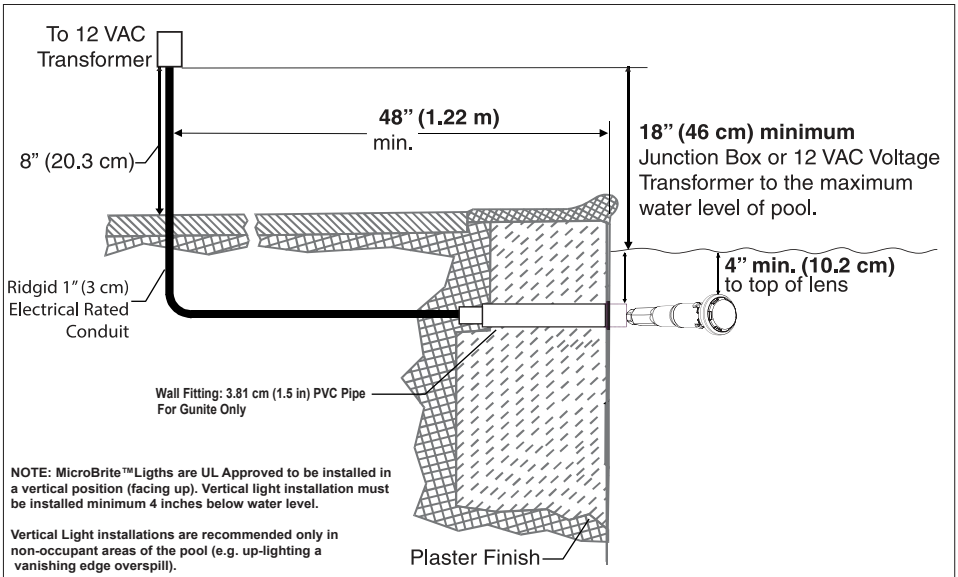
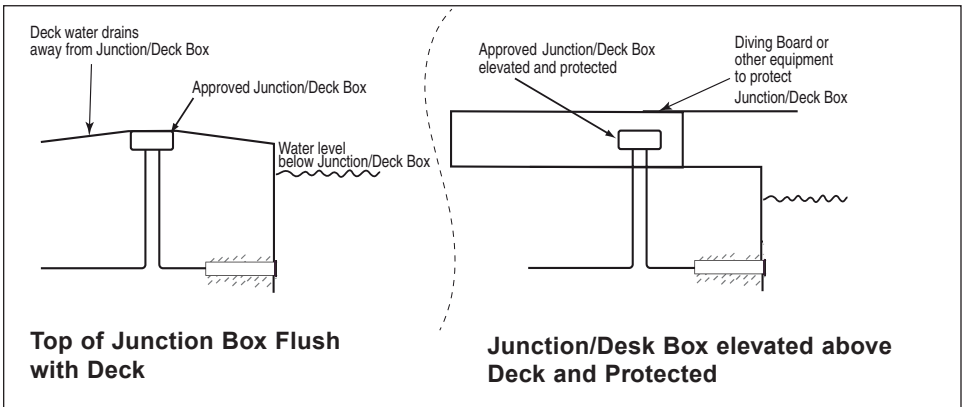

Figure 1.
Figure 2, Canada.
BEFORE STARTING: The following information describes the tasks that must be completed by the electrician before the light wall fitting is installed. See Figure 1 on page 7.
- The Junction Box and the low voltage transformer is located at least 4 (four) inches (10.16 cm) above ground level or eight (8) inches (20.3 cm) above maximum water level, whichever is higher. The Junction Box must be at least 48 inches (1.22 m) from the edge of the pool. See Figure 2 on page 8.
- The junction/deck box must be sealed to the conduit to prevent water from getting into the box, see Figure 2, below.
2. At the 12 VAC transformer or junction box, cut off any extra cord. Leave at least 15.2 cm (6 in) of cord in the Junction Box or transformer to facilitate the light installation wall fitting inspection. Cut off any extra cord. See Figure 1 on page 5, for junction box installation for USA, see Figure 2 on page 6 for junction box installation in Canada.
3. Connect the two (2) conductors to the corresponding circuit wires in the Junction Box. Secure the Junction Box cover.
- The Junction Box and the low voltage transformer is located at least 4 (four) inches (10.16 cm) above ground level or eight (8) inches (20.3 cm) above maximum water level, whichever is higher. The Junction Box must be at least 48 inches (123 cm) from the edge of the pool. See Figure 1 on page 8.
- The MicroBrite light wall fitting must be properly installed so that the top edge of the lens of the MicroBrite light is at least 4 inches (10.16 cm) below (not more than 48 inches (123.cm) below in Canada) the surface of the water in the pool or spa. See Figure 1 on page 8.